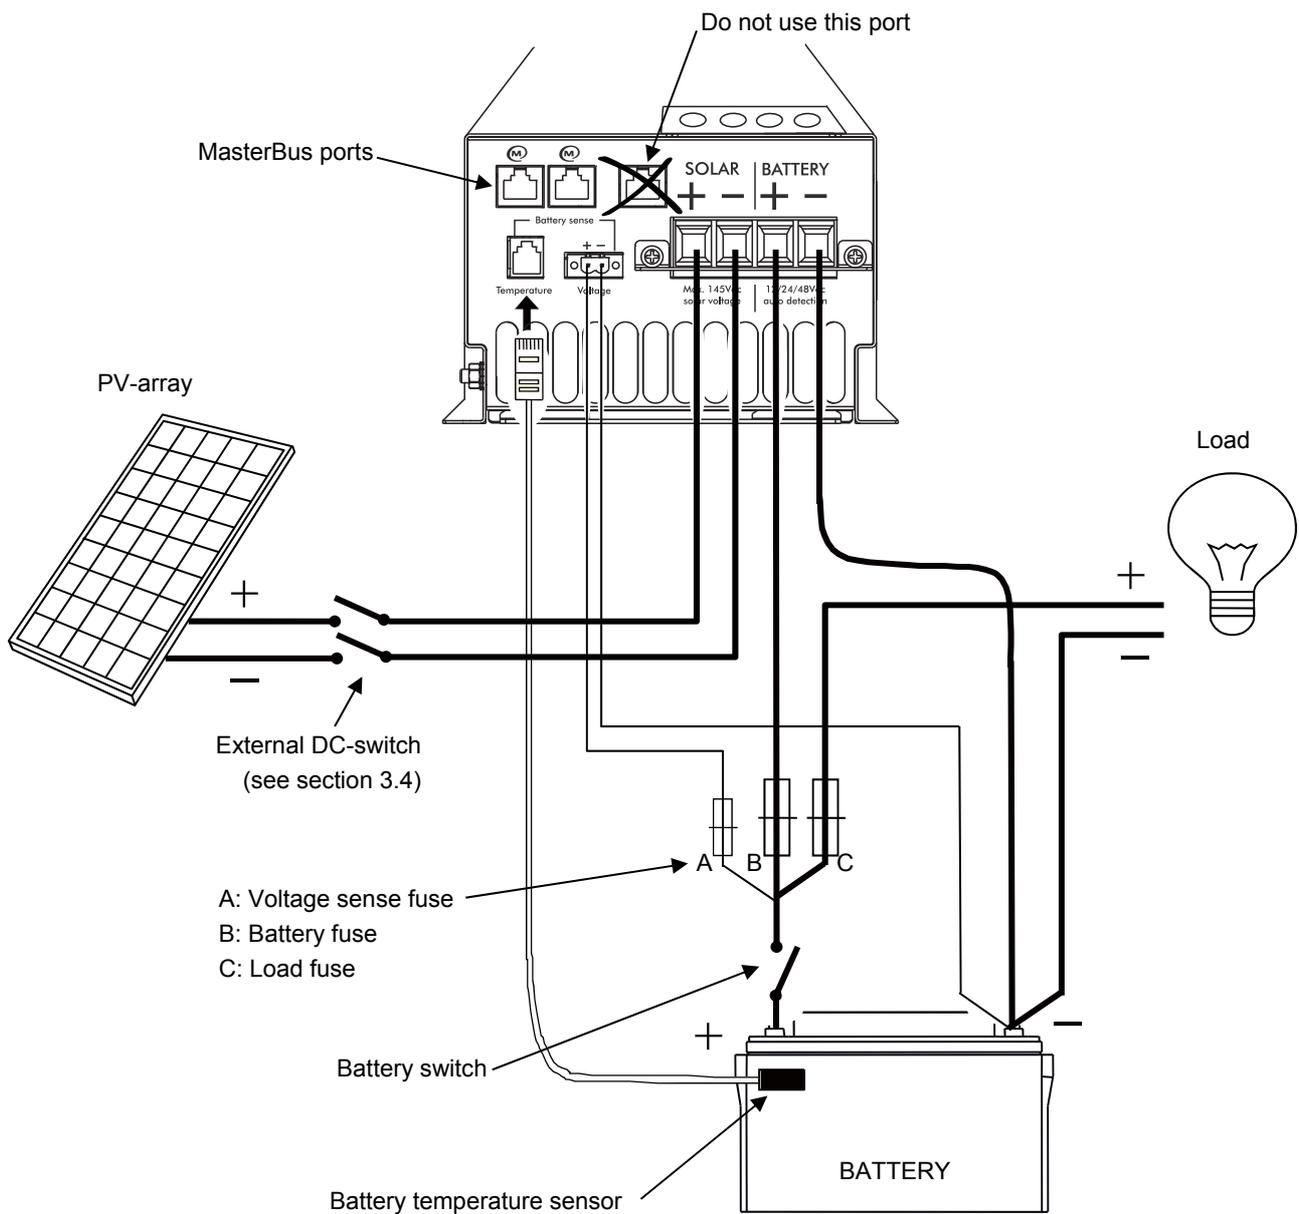

Figure 6: Wiring diagram
To compensate the charge voltage of the Solar ChargeMaster for losses over the battery cables the voltage sense function can be used. Connect wiring as indicated in Figure 6.
- 7** Connect the wiring to the battery. See figure 6. Fix the wires to the strain relief by means of tie-wraps. Integrate a fuse holder in the positive battery wire, but do not place the fuse yet.
- 13** Check all wiring: positive to +, negative to -. See also Figure 6 for wiring example. If OK, close the terminal cover by fastening the screw. Continue with section 3.7 for commissioning of the Solar ChargeMaster.